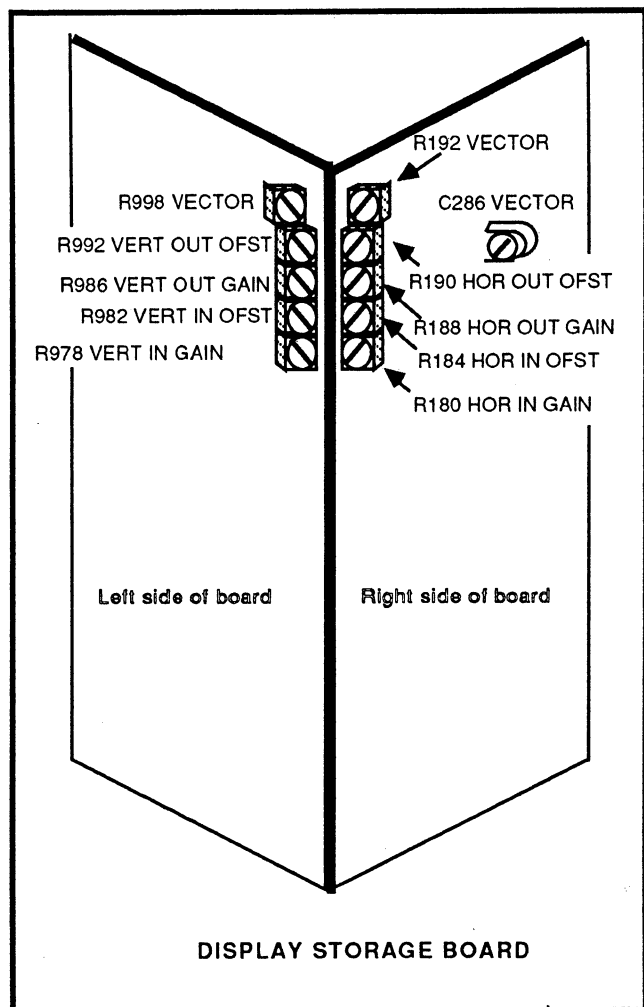

Figure 4-2. Display Storage board adjustment locations.
- b. Adjust R190 [Hoo (Horizontal Output Offset)] on the Display Storage board to position the center of the checkerboard pattern at center screen. See Figure 4-2.
b. Adjust (readjust) R190 [Hoo (Horizontal Output Offset)] on the Display Storage board to position the center of the checkerboard pattern at center screen. See Figure 4-2.
g. Press UTIL MENU six times to exit, then set FREQ SPAN/DIV to 100 MHz and set FREQUENCY to 100 MHz. Enable the calibrator signal by pressing INPUT MENU/#9 [CAL SIG @ 100MHz -30dBm (ON)], and turn DISPLAY STORAGE on.